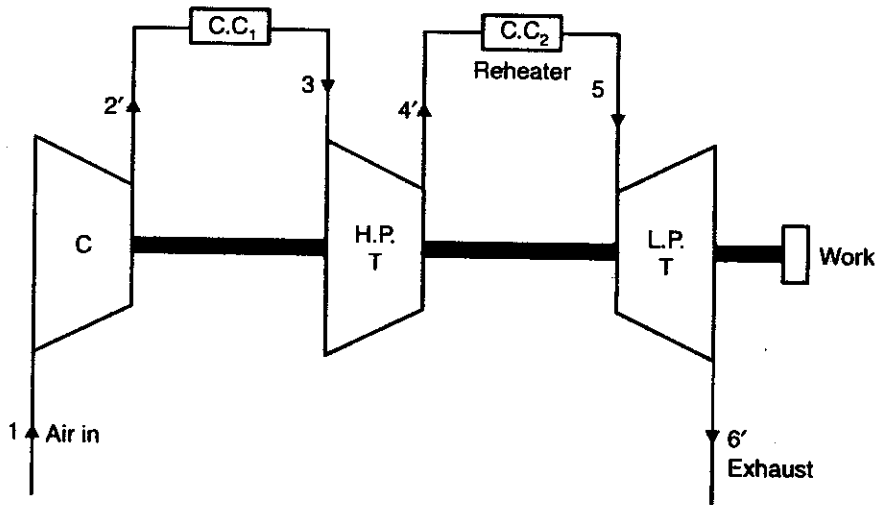

Fig. 5.7. Gas turbine with reheater.
2. Reheating. The output of a gas turbine can be amply improved by expanding the gases in two stages with a reheater between the two as shown in Fig. 5.7. The H.P. turbine drives the compressor and the L.P. turbine provides the useful power output. The corresponding *T-s* diagram is shown in Fig. 5.8 (a). The line 4'-L' represents the expansion in the L.P. turbine if reheating is not employed.